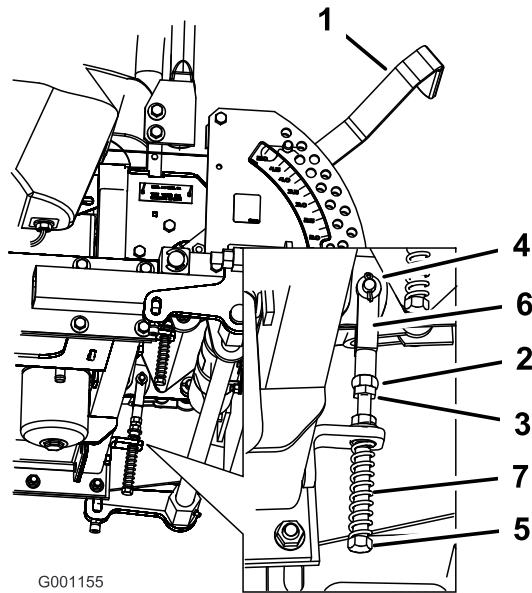

Figure 70
8. If adjustment is needed, loosen the nut and jam nut against the yoke (Figure 70).
- Apply slight rearward pressure on the motion control lever, turn the head of the adjustment bolt in the appropriate direction until the control lever is centered in the neutral lock position (Figure 70).
- Tighten the nut and jam nut (Figure 70).